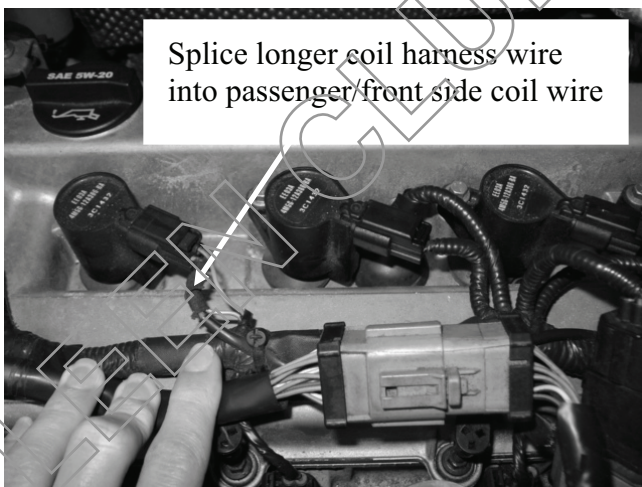

FIGURE 44
70. Cover the completed connection tightly with electrical tape (**FIGURE 44**).